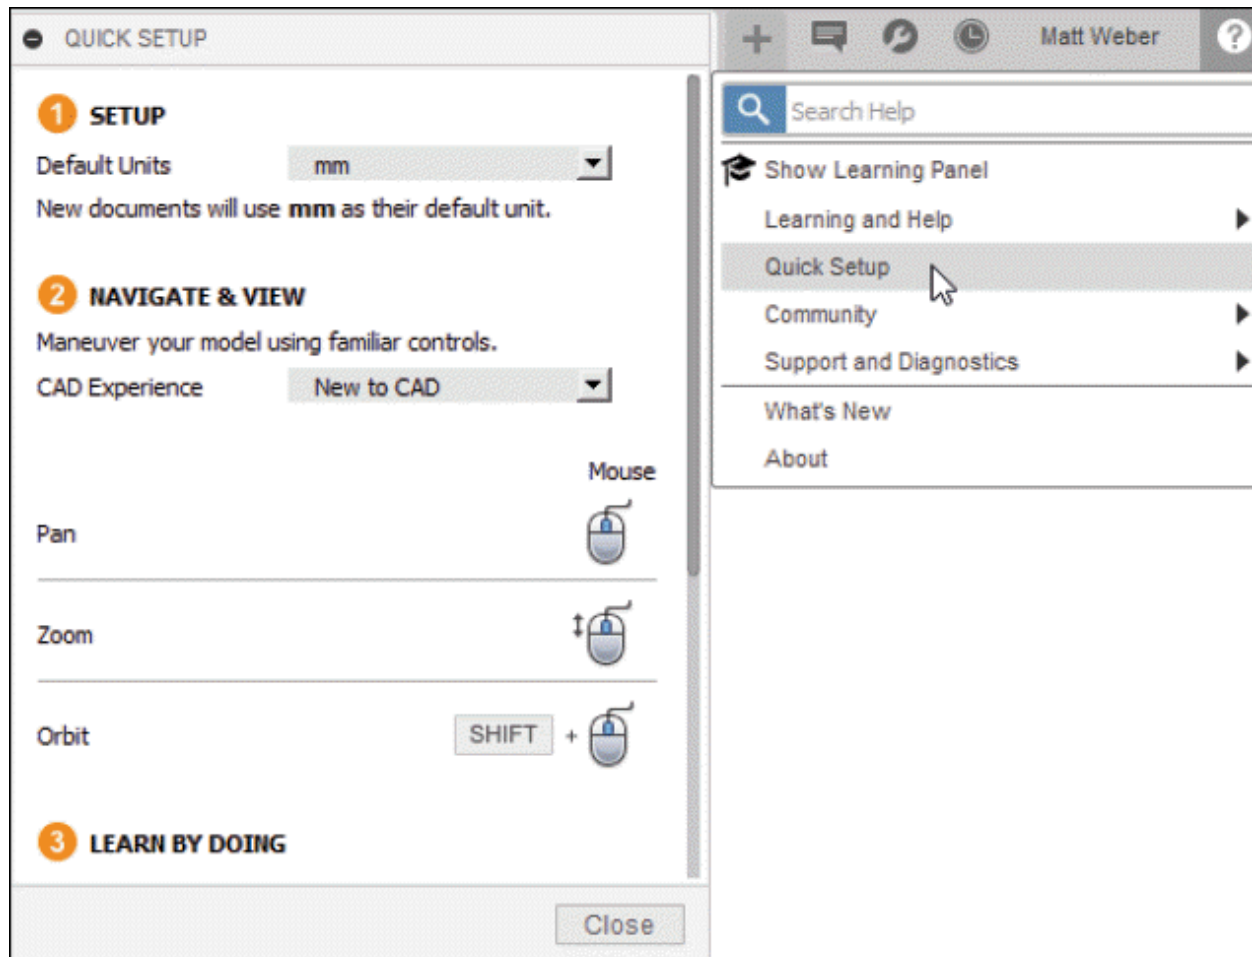

Figure-100. Quick Setup
- Click on **Quick Setup** tool from **Help** menu. The **QUICK SETUP** dialog box will be displayed; refer to Figure-100.